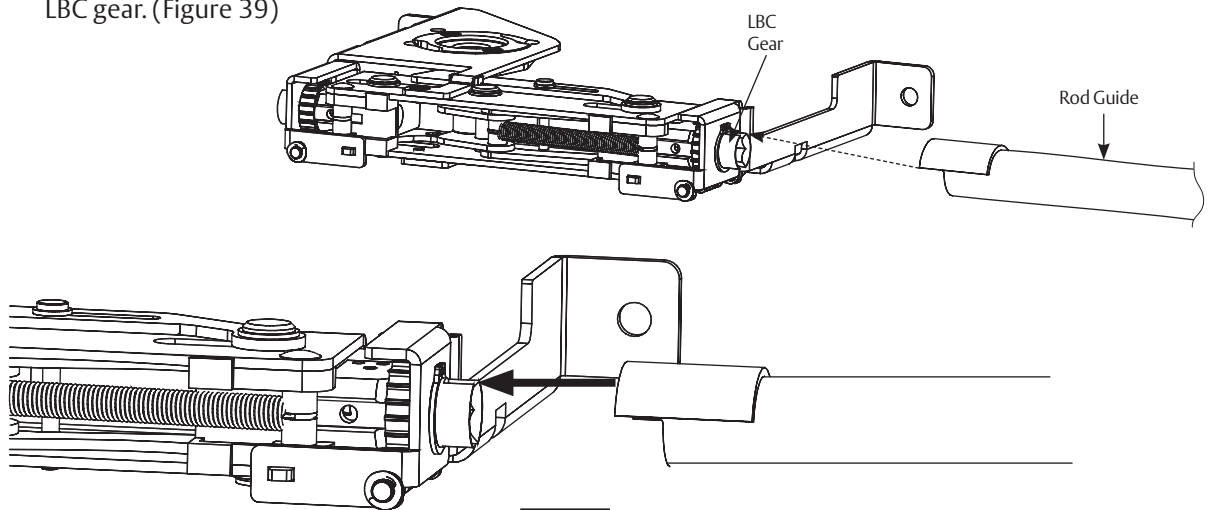

Figure 39
1. When approaching the LBC, slightly elevate the rod and slide the Guide Tab on outer diameter of the LBC gear. (Figure 39)